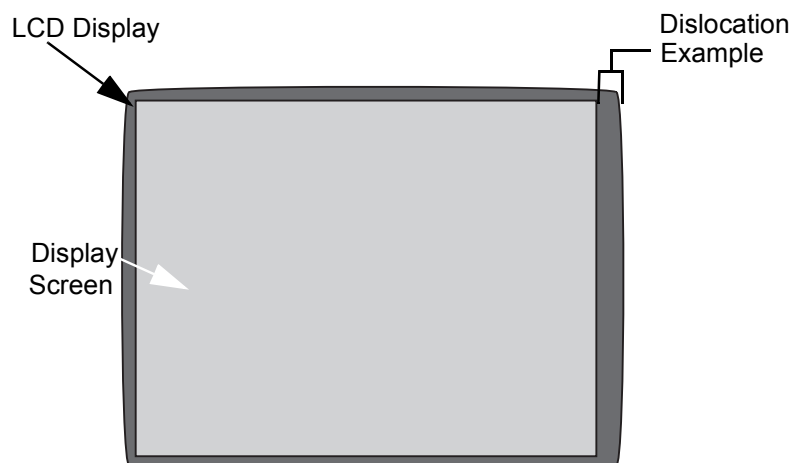

**Figure 6-17 Example of LCD Bad balance**
- Proper balance of the LCD display as shown in Figure 6-17